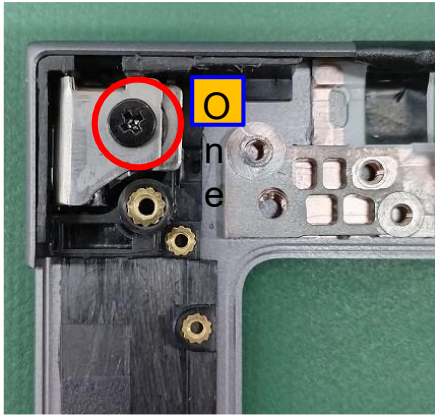

Figure 1
-  1. Loosen an M2*L4 screw (6052B0081901) and remove the K-Lock metal piece (6053B2313701) (Figure 1).